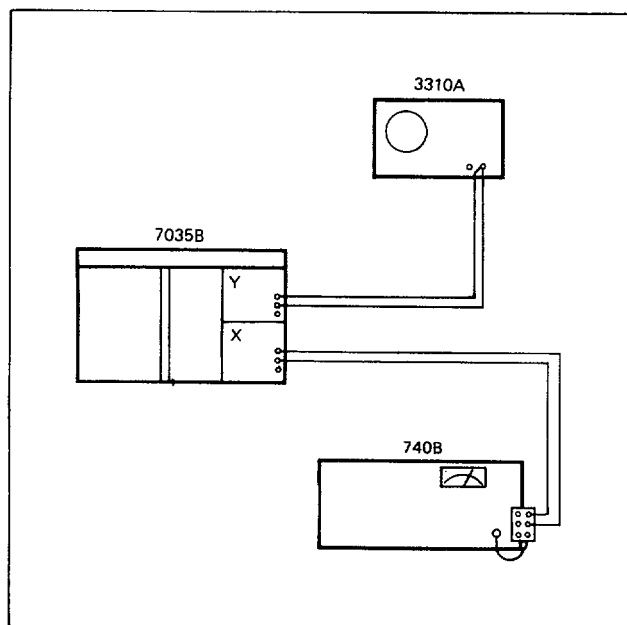

FIGURE 5-14. X-AXIS SLEWING SPEED TEST SETUP
- a. Hook up recorder as shown in Figure 5-14.